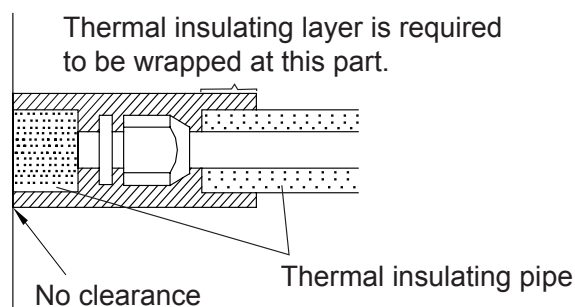

Fig.32
- 3) Joints at indoor and outdoor units should be wrapped with insulating material and leave no clearance between pipe and wall. See Fig.32.